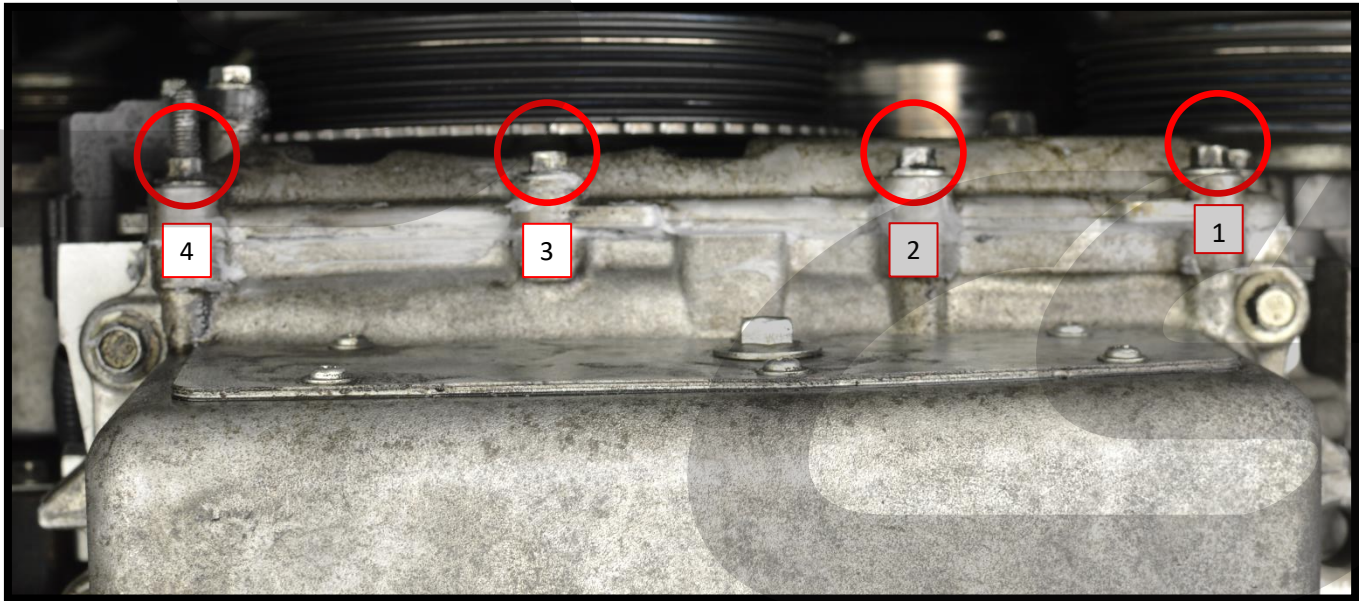

Figure 7e
- g) Secure the oil pan to the timing cover using the four (4) 8mm bolts removed earlier. Follow the order shown in **Figure 7e** and tighten to **71-102 in-lbs.**